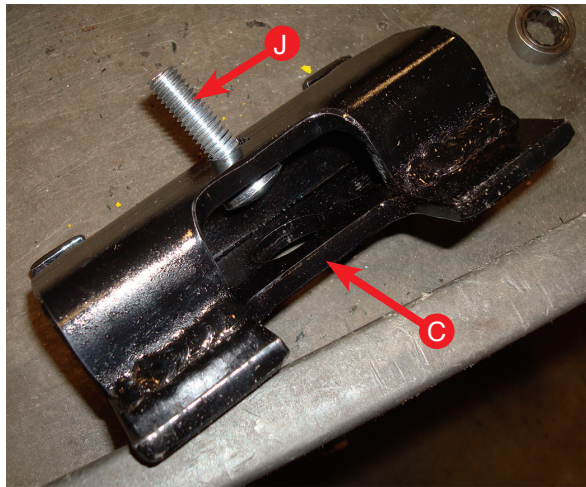

fig. 9
2. Insert the 3/8-16 X 1.5" carriage bolts (J) through both upper brackets (C) as shown (fig. 9).